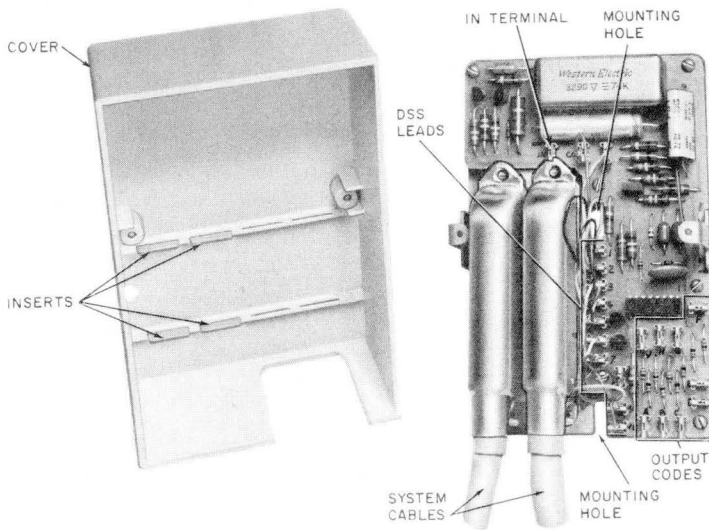

Fig. 35—26A Apparatus Unit
3.51 Install a separate 26A apparatus unit (Fig. 35) for each preset signaling group.